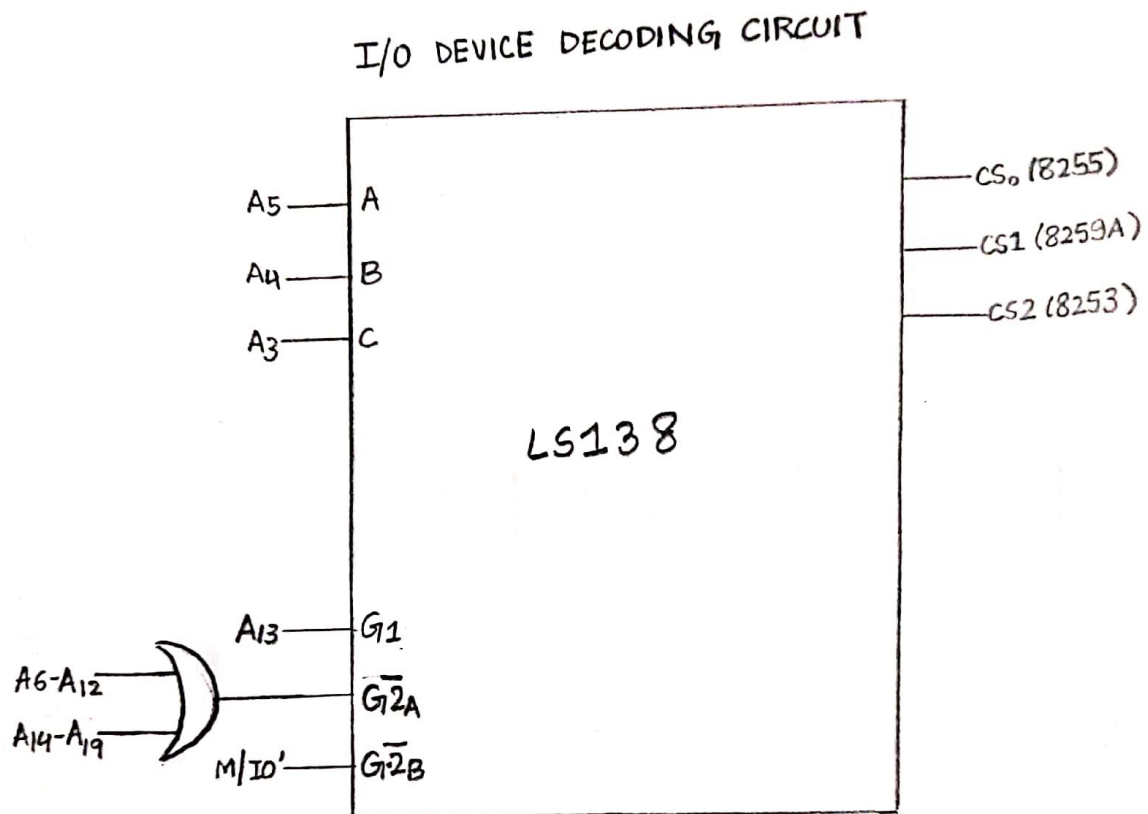

Fig 19.19
10. I/O Devices decoding Circuit	(Fig 19.19)